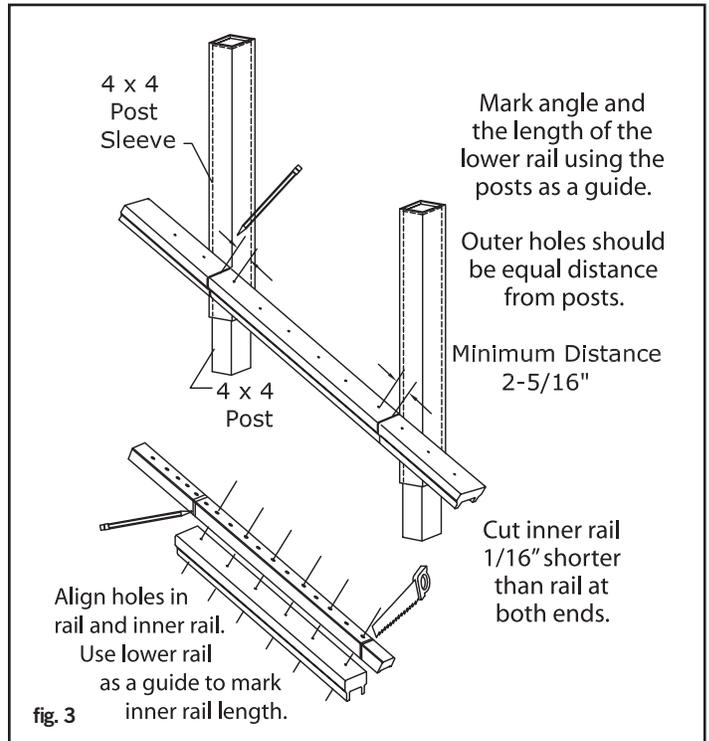

fig. 3
Step 5: **Note!** To ensure the balusters are installed plumb, the holes between the rail sections must all be aligned. **Tip:** Use a gauge pin or a 3/32" drill bit to ensure the holes are aligned. Using the trimmed lower rail as a guide, set the upper inner rail for the system on top of the trimmed bottom rail and align the pre-drilled holes. Mark the cut lines on the inner rail with a pencil. **Note!** To allow for the thickness of the brackets, the inner rails should be 1/8" shorter than the lower rails with all holes equally spaced. Remove an additional 1/16" from the pencil mark on each end and trim the inner rail to length. Repeat for the second inner rail (fig. 3).
Step 9: Determine the length of the balusters. Fig. 3 illustrates how a 36" high railing might be sized. Use fig. 3 as a planning tool to determine the height to cut the post sleeves and the balusters. **Note:** Use a fixture to ensure a consistent length (+/- 1/16"). If using co-ex composite balusters, the baluster will need to be miter cut to the proper stair angle. Trim the balusters to the required angle (co-ex composite balusters only) and length. (One per hole in lower rail). Install balusters on each connector. Gently tap the balusters with a rubber mallet to eliminate any gaps. Check for level end to end. **Tip:** Wrap painters tape around the back side of both posts and place balusters against the tape. The tape will balance the balusters in place until the upper rails are installed. Remove tape when upper rail is in place.